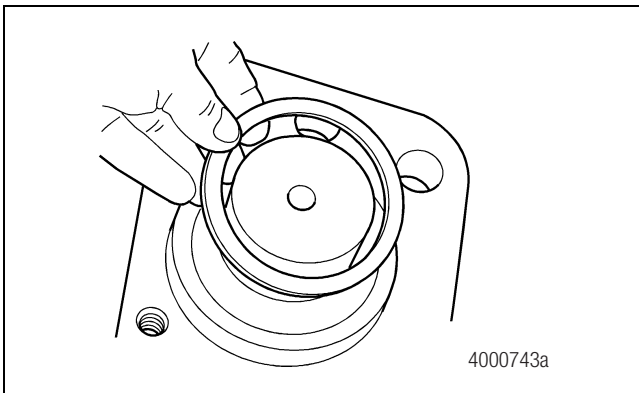

Figure 4.7
7. Inspect the steering arm oil seal on the upper knuckle cap for wear and damage. Replace a worn or damaged oil seal at reassembly. Figure 4.7.